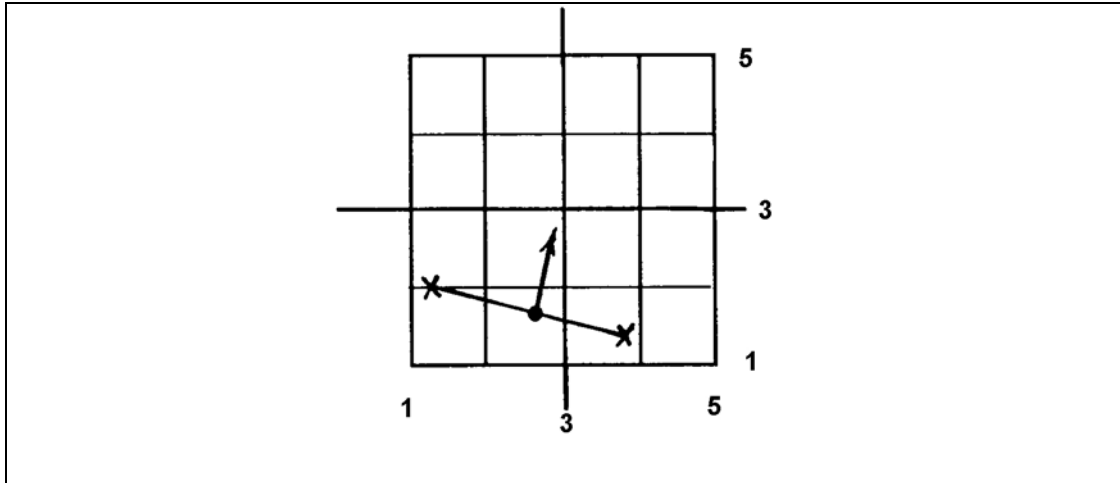

Figure B-23. Distance and direction from center.
(12) Lay the gun on the estimated center of the panel.
(13) Draw an arrow from the middle of the line to the center of the panel. The arrow shows the distance and direction of the gun to target center (Figure B-23, page B-17).